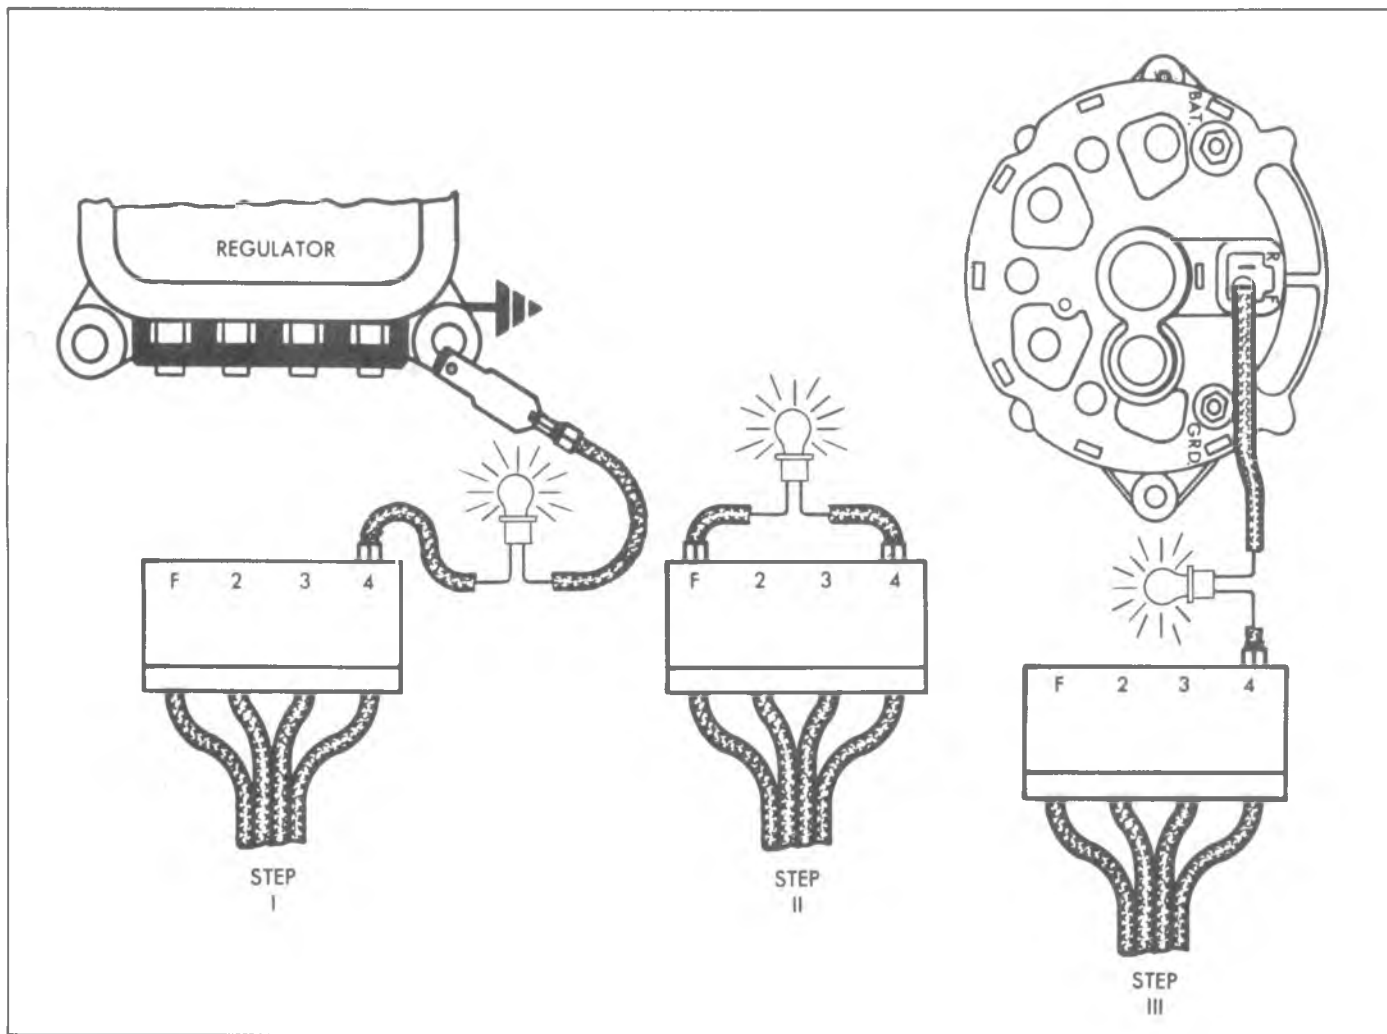

Fig. 6c—Initial Field Excitation Circuit Tests
1. Disconnect connector from regulator and turn ignition switch to "ON" Connect a test lamp from connector terminal "4" to ground (fig. 6c, Step 1) and note lamp.
2. Disconnect lamp lead at ground end and connect between connector "FF" and "4" terminals (fig. 6c, Step 2), and note lamp:
3. Disconnect test lamp at connector "F" terminal and connect to "F" terminal on Delcotron (fig. 6c, Step 3), and note lamp:
1. Connect a test lamp from the wiring harness connector terminal "4" to ground as shown in Figure 6c (Step 1).